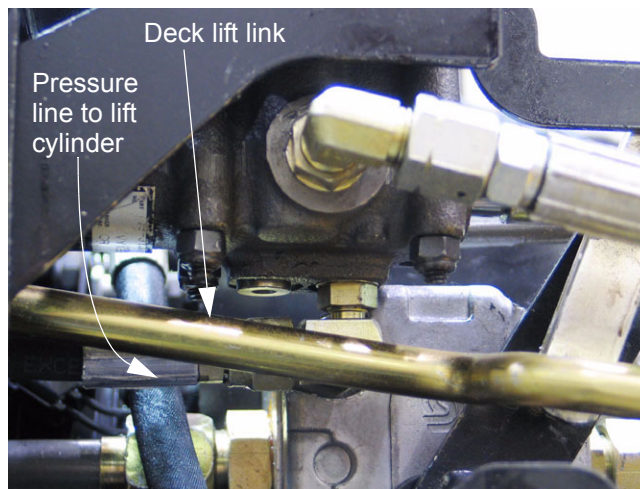

Figure 8.21
- 8.21. If the tractor is equipped with a mid-mount mower deck, it will be necessary to disconnect and remove the link that connects the three point lift arm to the deck lift mechanism. See Figure 8.21.